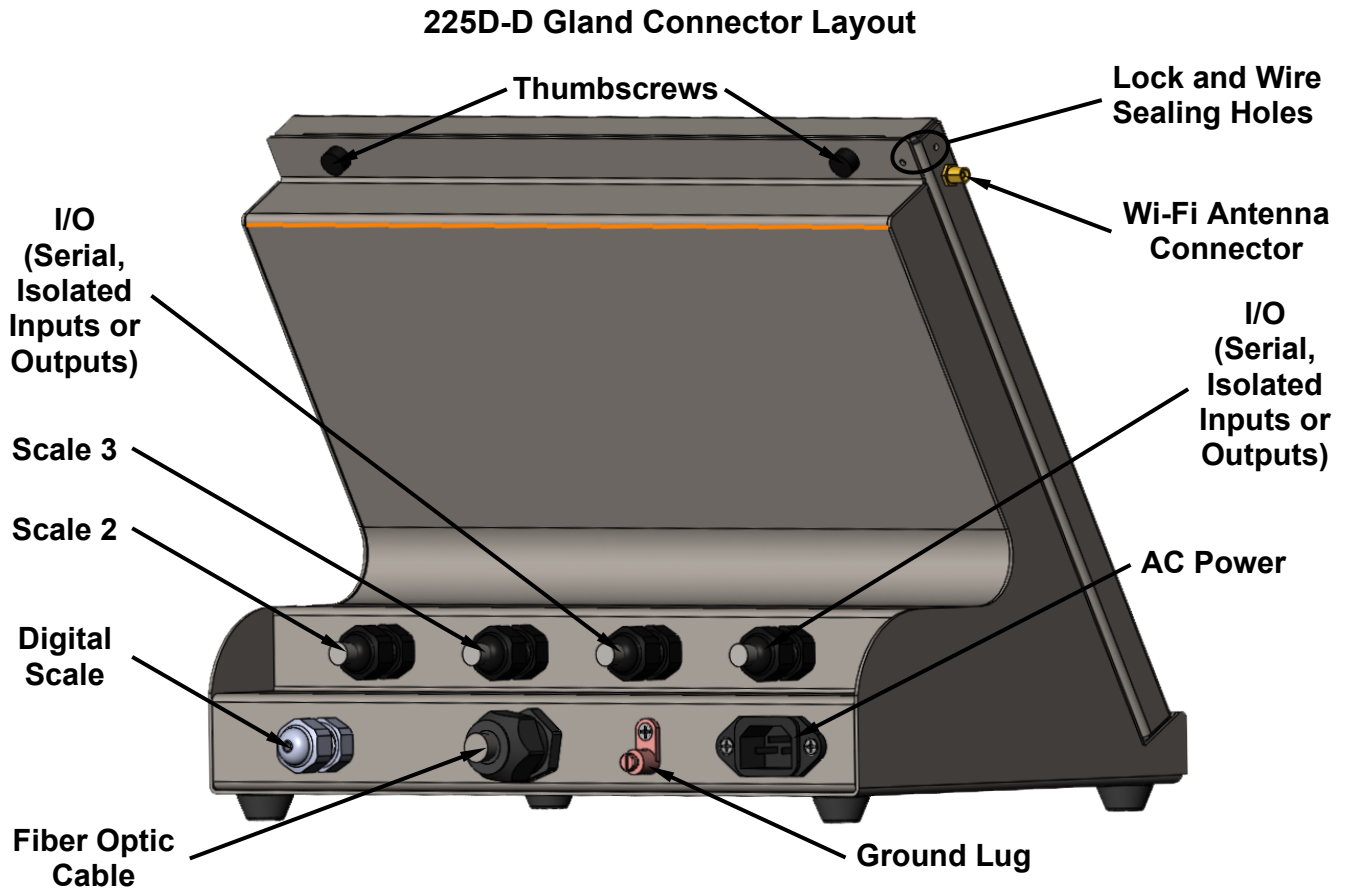

Figure No. 4
The short section of Homerun Cable from the INDICATOR terminal block in the POWER-DLC should be routed through the metallic gland connector, identified as **Digital Scale**, in Figure No. 4 (225D-D Gland Connector Layout).
1. Referring to Figure No. 4, remove the 2 thumbscrews securing the front panel to the rear enclosure, and then lower the front panel.